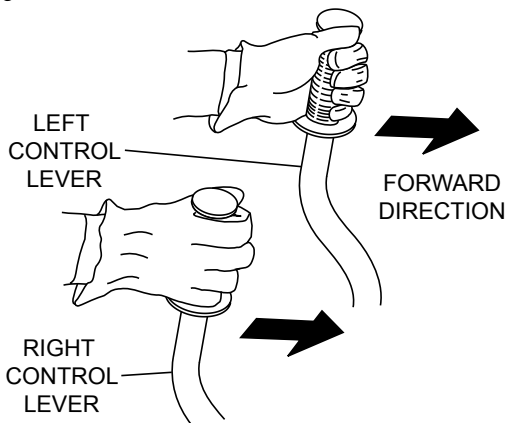

Figure 12. Left and Right Control Levers
1. Push both the left and right control levers forward. See Figure 12.